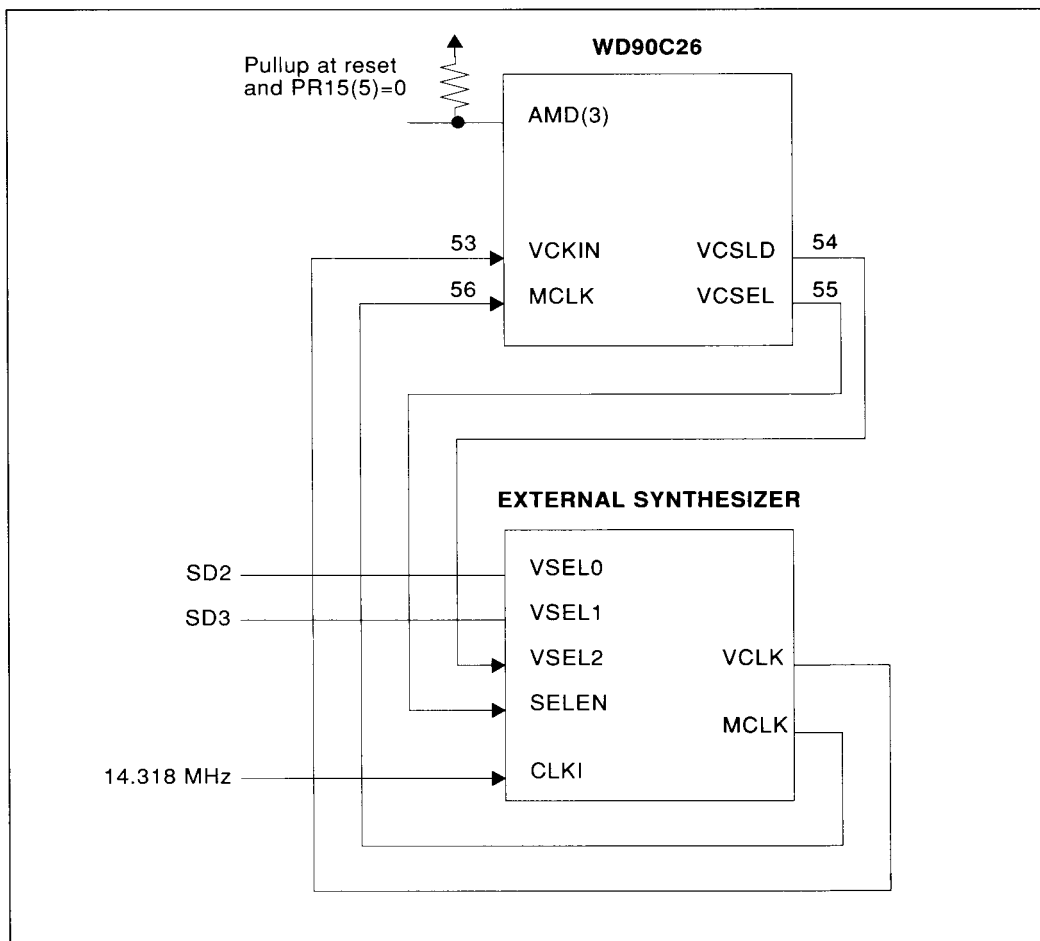

FIGURE 6-15 USING A WD90C26 WITH AN EXTERNAL SYNTHESIZER
- Using a WD90C26 with an External Synthesizer (see Figure 6-15).